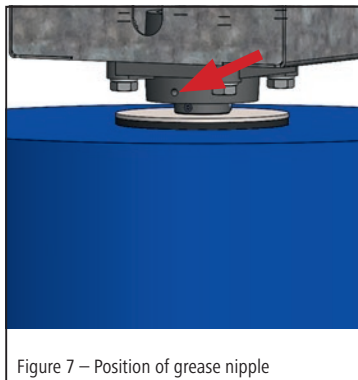

Figure 7 – Position of grease nipple
Lubricate the flange bearing units at the locations marked (Fig. 7). Check plain bearing bushes (Fig. 14 - item 2.2) for wear. These parts must be inspected regularly and replaced if they are wearing too much.